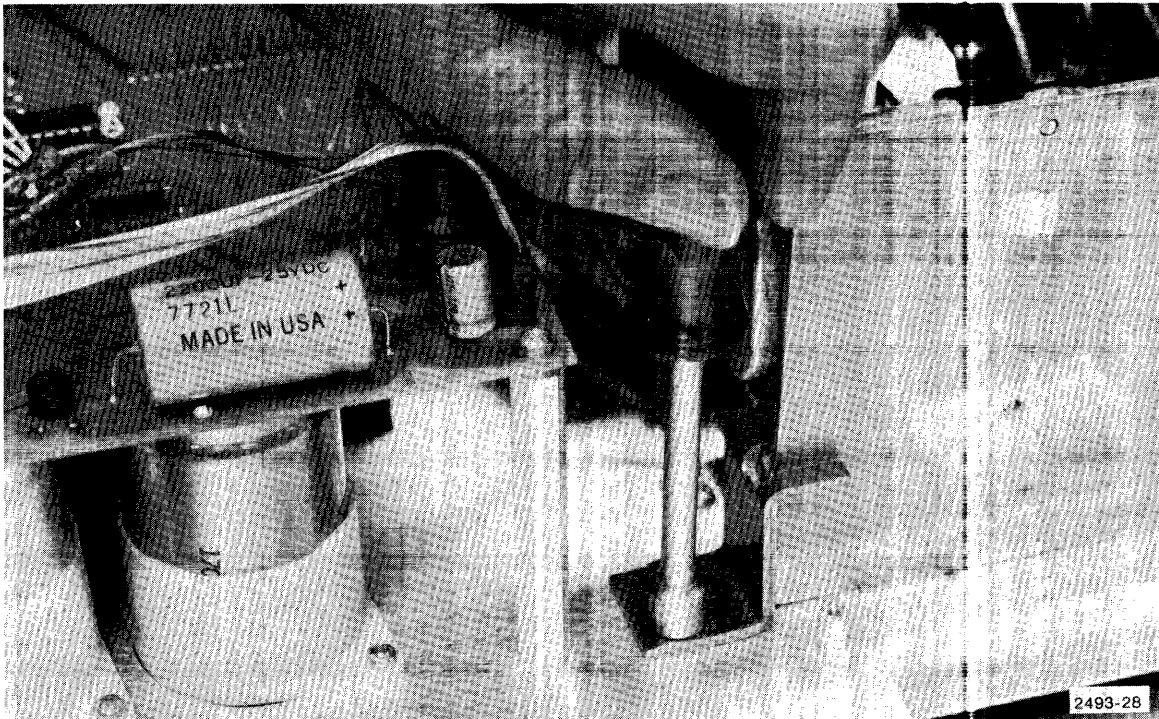

Figure 7-2. Loosening drive clamp.
- e. Loosen clamp holding drive to chassis (Figure 7-2).